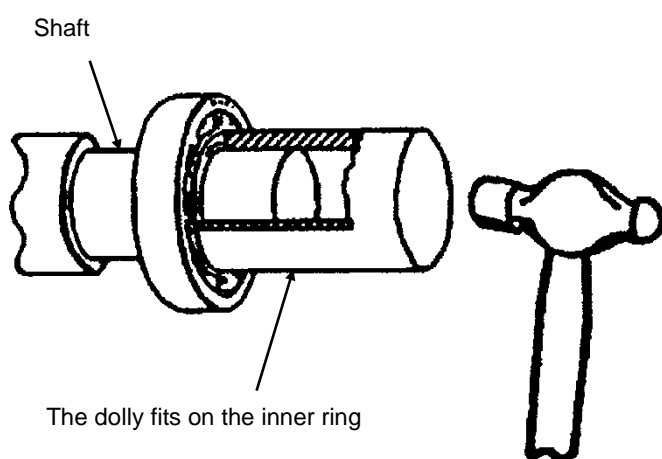

FIG 10.
- E. Place the mild steel dolly on top of the inner ring and drive it on slowly with a hammer. (Fig 10)